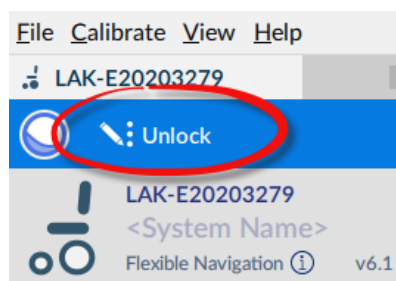

Figure 13: Unlocking bulk edit #1
1. Click on the **Unlock** button located at the top-left of the screen — *Figure 13*.